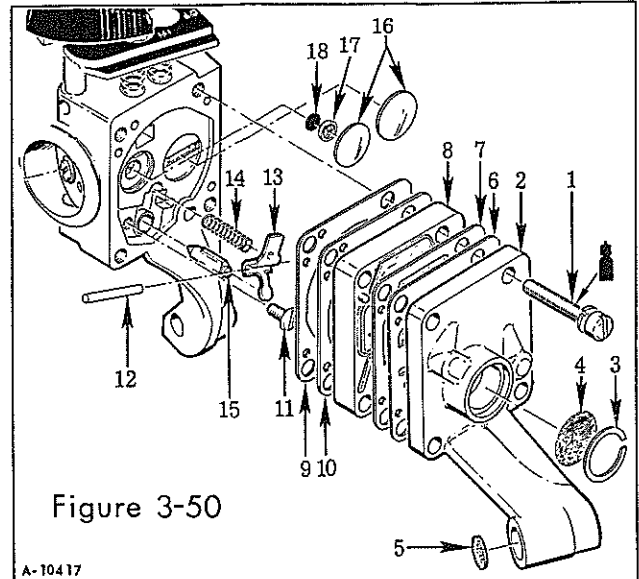

Figure 3-50
1. Remove the four screws (1, Figure 3-50) attaching the pump cover (2) to the carburetor and remove the carburetor. The vent screen (4) in the pump cover prevents dirt entering the dry side of the carburetor diaphragm. To remove the vent screen, remove the retainer (3) and push the screen out with a fine drill rod from inside the cover. The fuel inlet screen (5) can be bumped out of the fuel inlet passage.
2. Remove the fuel pump diaphragm (6), diaphragm gasket (7) and fuel pump body (8) from the carburetor. The carburetor diaphragm (9) will probably come with the fuel pump body. Remove it and the gasket (10).
3. Loosen the inlet lever pin screw (11) and remove the pin (12), lever (13) and spring (14). Be careful not to lose the spring as it is under tension. Remove the screw and bump the inlet needle (15) out into the palm of your hand.
4. Drill the welsh plugs (16) and remove them with a pick. Remove the check valve seat assembly (17) and valve (18). This valve prevents air bleeding in-